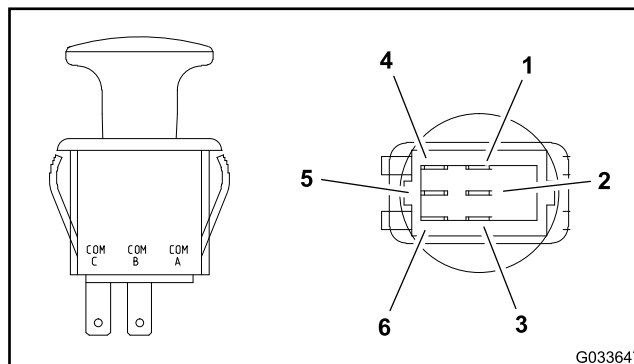

Figure 207
8. The PTO switch terminals are identified in Figure 207 and the circuitry of the switch is shown in the Circuit Logic Table \(page 5–63\). With the use of a multimeter (ohms setting), test the switch functions to determine if continuity exists between the various terminals for each switch position. Check the continuity between the switch terminals.